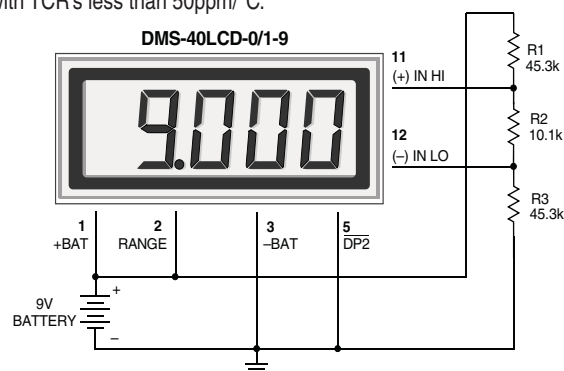

Figure 8. Power Supply Monitor (9V-Powered Models)
6. Power Supply Monitoring: A popular application for Murata Power Solutions' low-power LCD meters is monitoring the supply voltage in battery-operated portable equipment. Figure 8 demonstrates how a 9V-powered DMS-40LCD can be used to monitor its own supply. The meter used is the DMS-40LCD-0/1-9 configured for its $\pm 2\text{V}$ input range (pin 2 connected to pin 1). A three-resistor voltage divider is used to attenuate the battery voltage and also to satisfy the requirement that the input voltages applied to pins 12 and 11 be at least 1.5 Volts above and below the battery voltage applied to pins 1 (+BATTERY) and 3 (-BATTERY).